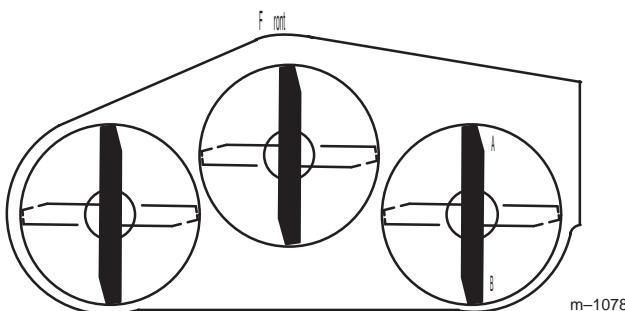

Figure 70
4. Measure the right blade at the **B** location (Fig. 70), from a level surface to the cutting edge of the blade tip (Fig. 71).
6. The mower blade should be **a 1/4 to 3/8 inch (6 to 10 mm) lower at position A than at position B** (Fig. 70). If it is not correct, proceed to the following steps.
1. Position the **right** blade front-to-rear (Fig. 70).
2. Measure the right blade at the **A** location (Fig. 70), from a level surface to the cutting edge of the blade tip (Fig. 71).